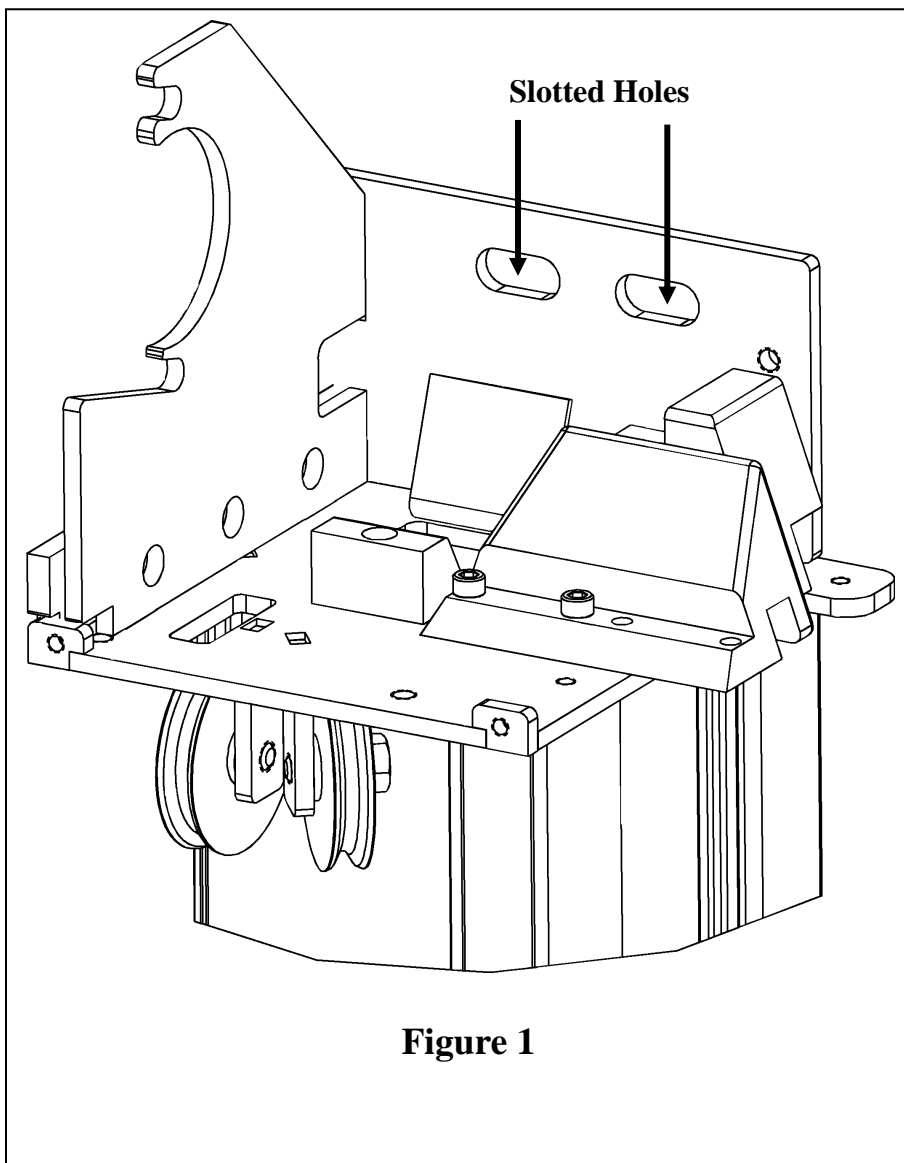

Figure 1
Step 5 Plumb both side columns and secure them to the wall using proper anchoring hardware. The anchor holes are slotted to allow for adjustment of door width and centering over the door opening. (**Figure 1 and Figure 2**)